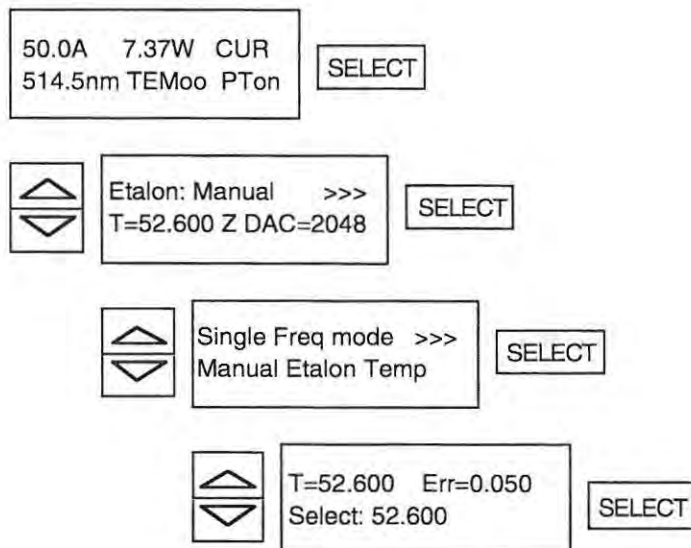

Figure 8-8. Manual Etalon Temperature Control Path
19. Open the intracavity shutter, if desired, and allow the etalon to warm up. Verify proper oven operation by navigating the menu tree as shown in Figure 8-8. The top level of the "Etalon Menu" will display 'No etalon' until the etalon temperature exceeds 25 °C.
When the display showing the set etalon temperature and Z-axis DAC appears, navigate the menu tree as shown in Figure 8-8 to get to the Manual etalon temperature selection menu. The actual etalon temperature equals the set temperature plus the error. Alternatively, use external computer control (Queries: Print Etalon Temperature or Print Etalon) to get the actual temperature.
To read the single-frequency mode, navigate the menu tree as shown in Figure 8-8 to the top level of the "Etalon Menu". In the "Etalon Menu" level, the etalon mode is displayed on the first line. The etalon set temperature (°C) and Z-axis DAC setpoint are displayed on the second line. The Z-axis DAC setpoint will change automatically when v-Track is active. The set temperature will change automatically when ModeTrack is active. The etalon temperature and Z-axis DAC setpoints will change automatically while ModeTune or ModeFineTune is scanning.
To set the single-frequency mode to Manual without changing the etalon temperature or Z-axis DAC settings, navigate the menu tree as shown in Figures 8-8 or 8-9 to enter
Manually setting the etalon temperature adjusts the position of the etalon transmission curve with respect to the laser gain curve (see Chapter Ten, Theory of Operation). To change the etalon temperature, navigate the menu tree as shown in Figure 8-8 to enter the etalon temperature select sub-menu. In this sub-menu, the etalon set temperature (°C) and error (°C) are displayed on the first line. The actual measured temperature equals the set temperature plus the error. A small error between the actual and set temperature is normal. Use the up/down arrows to scroll the value on the second line to the desired temperature setting and press SELECT to set that temperature. The set temperature can be adjusted in the range of 51.500 to 56.500 °C. The actual etalon temperature will respond and stabilize in a few minutes.